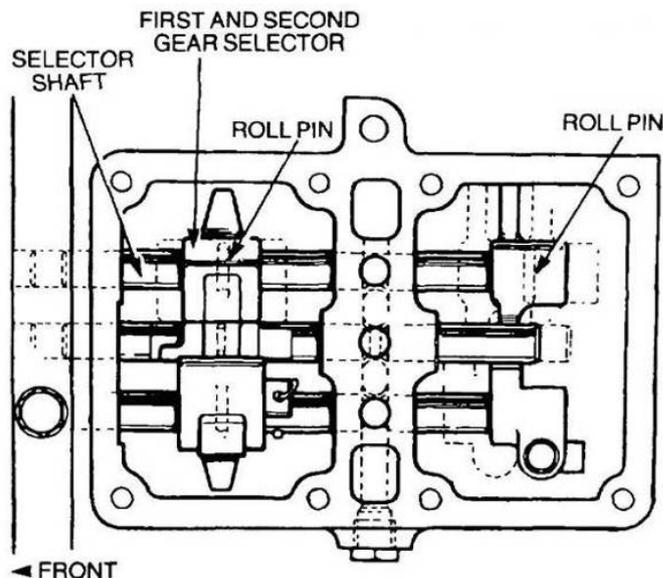

Figure 200 Installation of the First and Second Gear Selector
- fff. Position the first and second gear selector in the transmission and install the first and second gear selector shaft engaging the selector and selector fork as the shaft is pushed in fully. Secure the first and second gear selector fork, and the first and second gear selector with new roll pins (Figure 200).